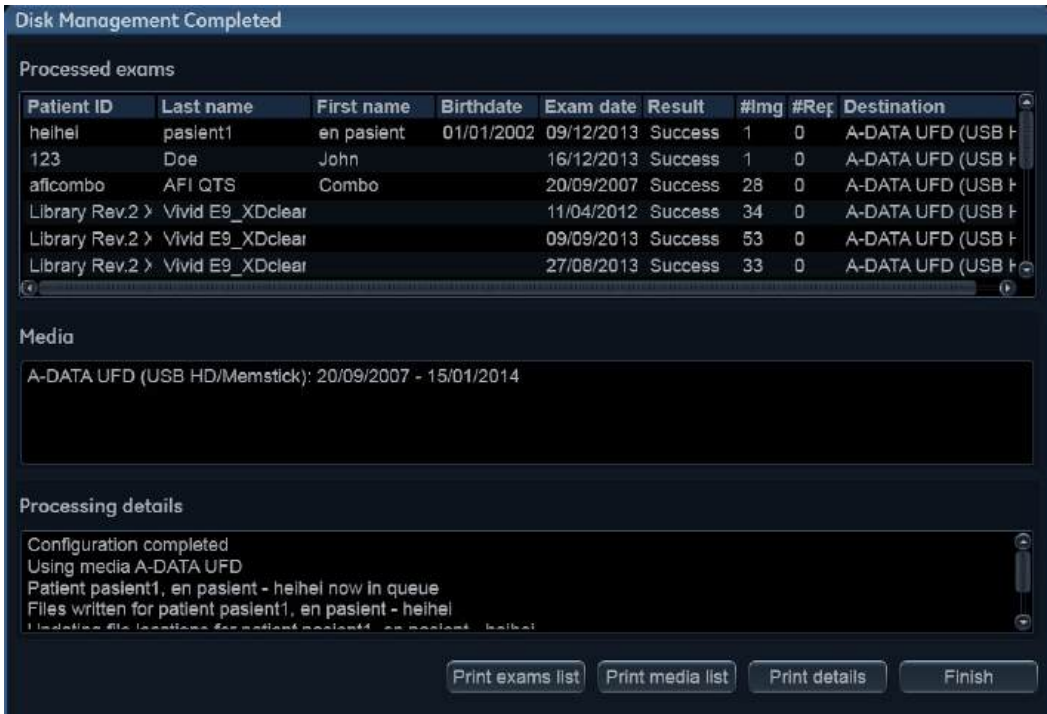

Figure 10-33. The Disk management completed window
5. When all the files are copied, the *Disk management completed* window is displayed (Figure 10-33), showing the list of processed examinations, the media used and a detailed log.